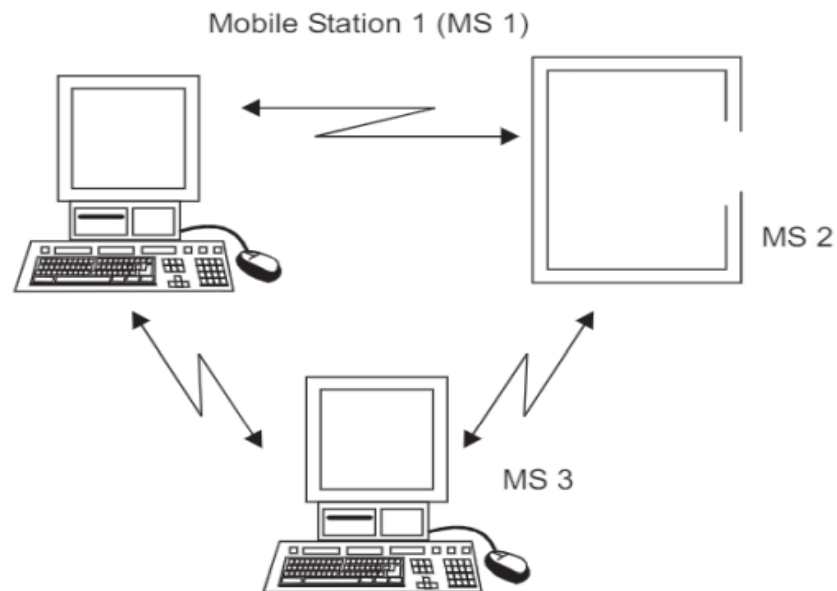

Fig 5.4 Single hop ad-hoc network
- Fig 5.4 shows a single-hop, ad-hoc network where every user terminal has the functional capability of communicating directly with any other user terminal. Nodes with an ad-hoc network can only communicate if they can reach each other physically, i.e., if they are within each other's radio range or if other nodes can forward the message.